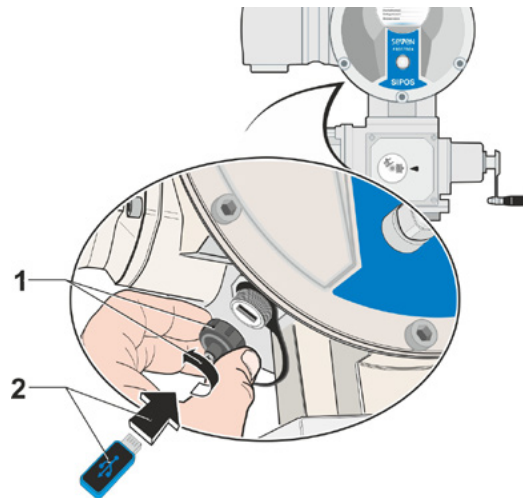

Fig. 1: Connect USB flash drive
- Unscrew cover of USB port on the left below the electronics unit (fig.1, item 1).
- Connect USB flash drive (item 2).